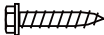

**Figure 3**
- ☐ 1. Securely attach the hanger bracket to the outlet box using the #8-32 outlet box screws and flat washers supplied with the fan. (Figure 3)
- ☐ 2. Drill a 1/4" pilot hole into the building structure to prevent splitting or cracking with installation of the lag bolt. Using the 3/8" x 2" lag bolt and flat washer, attach safety cable to ceiling joist or wood structural member. The lag bolt will pass through the flat washer, safety cable loop, and into the building structure. (Figure 3)
**NOTE:** Ceiling support cable cannot be secured to outlet box only, it must be directly secured to ceiling joist or structural member using the 3/8" x 2" lag bolt and flat washer. (Figure 3)